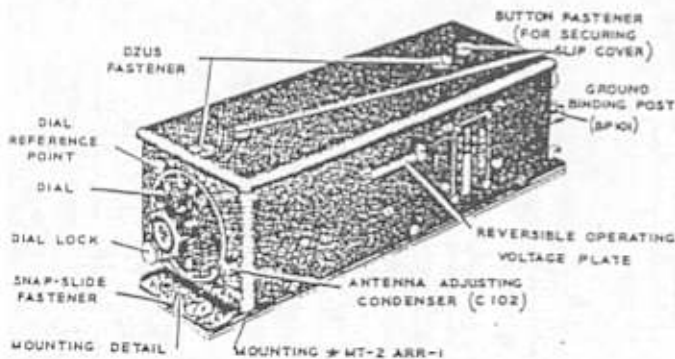

Figure 2—Radio Receiver *R-1/ARR-1, Front View
figures 2 and 3. On the front are a tuning dial, a dial lock, and an antenna-trimming adjustment marked ANT. TRIM. The rear panel has a grounding post and five receptacles.
b. MOUNTING *MT-2/ARR-1.—The mounting, shown in figure 1, consists of an aluminum plate with two mounting details and four countersunk holes. Figures 2 and 3 show it attached to the receiver. Some mountings do not contain the nomenclature "*MT-2/ARR-1."